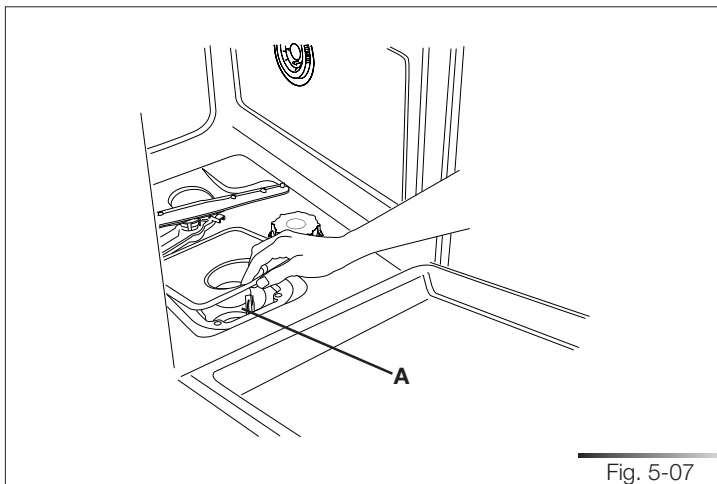

Fig. 5-07
- **When removing the filter**, take care that there are no food residues on it. If any residues fall into the washing pit (ref. A fig. 5-07), they might block hydraulic components or foul the spray arm nozzles.